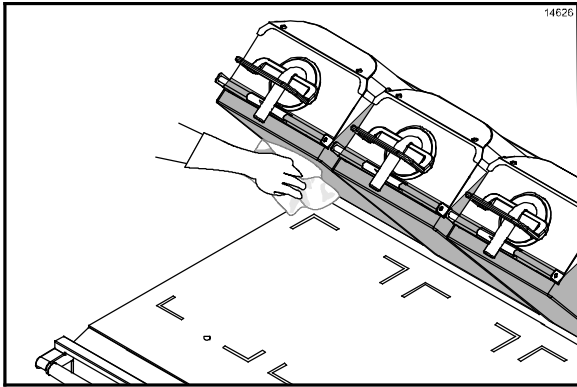

Figure 81
7. Wipe the exposed surface of the release sheets with a clean, sanitizer-soaked grill cloth. (See Figure 81.)